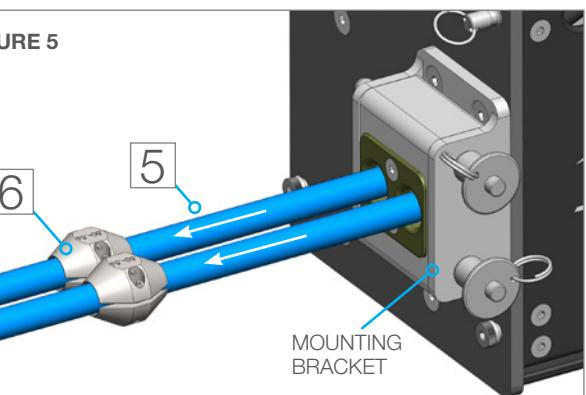

FIGURE 5
5. Pull on the hoses from the back of the AUTOBOX® (ABX-2L-B) Hose Tractor to ensure that the Collet does not allow the waterblast tool back out of the Guide or Hose Tractor. (Figure 5)
6. To install hose stops, push waterblast tools through the exchanger until the tips are 1-2" (25-51 mm) past the end of the tube bundle. Loosely install the stop, then push toward the mounting bracket and tighten in place. (Figure 5)